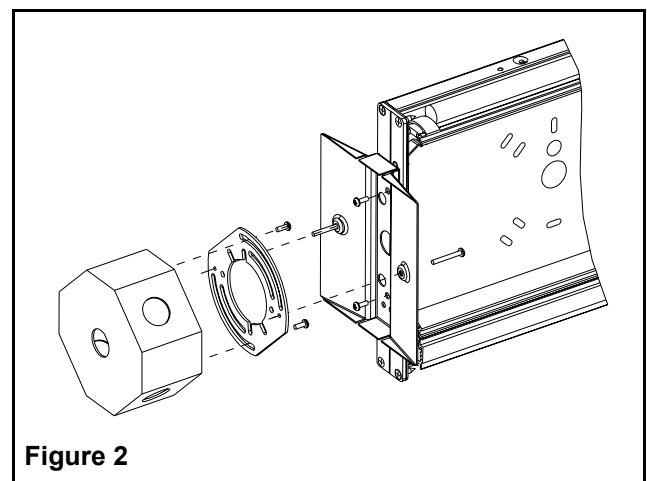

Figure 2
- a. Determine desired mounting location of sign (see fig. 2).